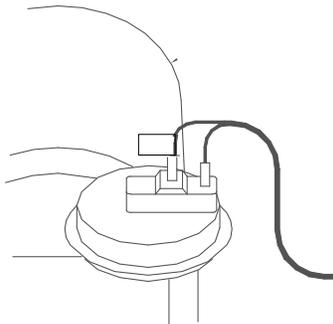

Figure 5-4; Blower Proof Switch
4. Next, the blower proof switch (Figure 5-4) closes and the display will show *Purging* and indicate the elapsed time of the purge cycle in seconds. The normal (default) time for the purge cycle is 7 seconds.